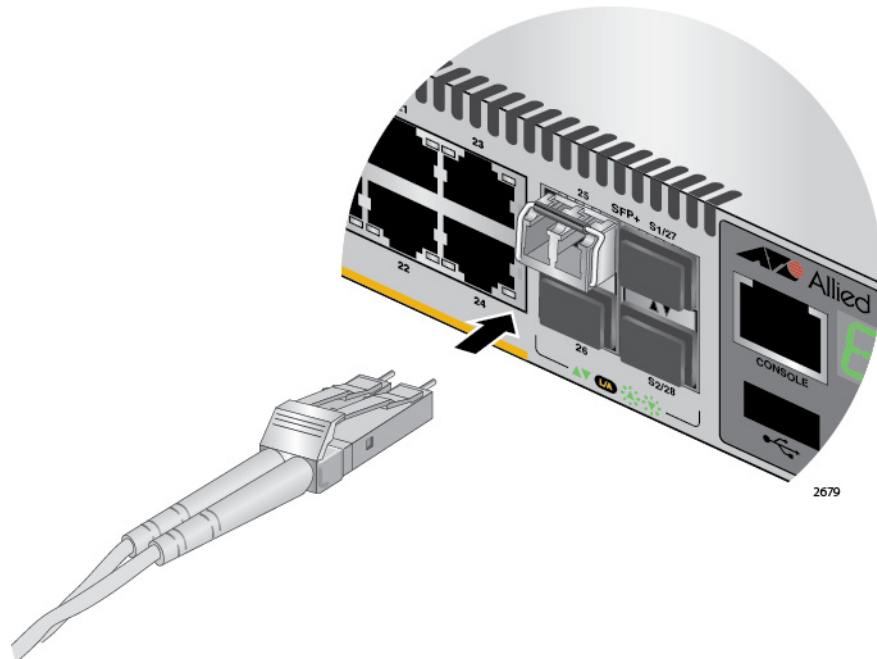

Figure 31. Connecting a Fiber Optic Cable to an SFP or SFP+ Transceiver
7. Connect the fiber optic cable to the transceiver, as shown in Figure 31. The connector on the cable should fit snugly into the port, and the tab should lock the connector into place.